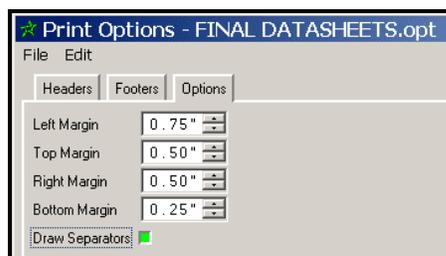

Figure 17-3. DBMS Print Options Dialog - Options Tab
STEP 10: The *Options* tab of the *Print Options* dialog should look like Figure 17-3. Click *OK*.